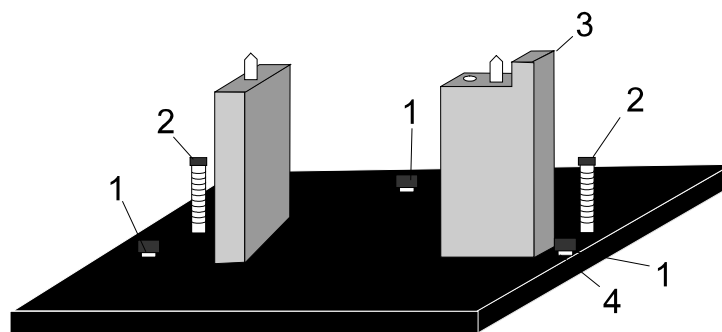

Figure 3. Cell holder base
- 2 Place the cell holder base in the sample position on the base plate. The notched pillar (see Figure 3) should be on the side to the right.